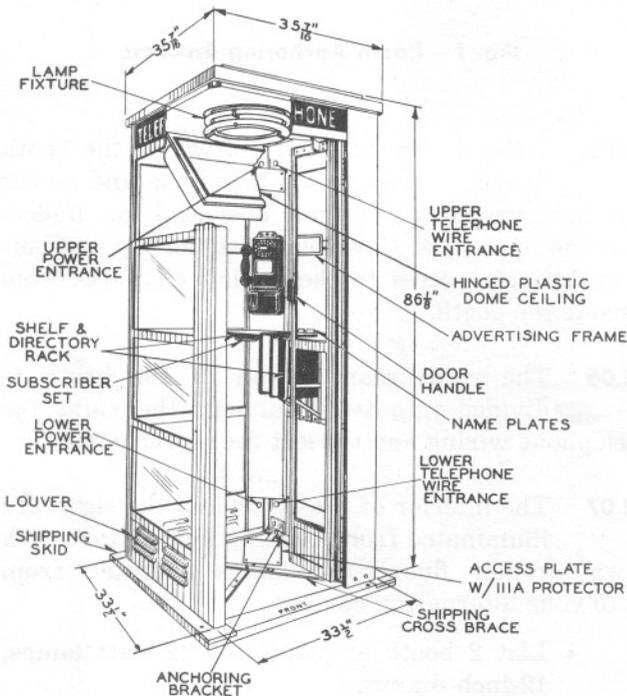

Fig. 3 — KS-14611, List 3 Booth
2.13 The list 3 booth is equipped with a plastic dome ceiling which is dust free and houses only the light fixture (see Fig. 3).